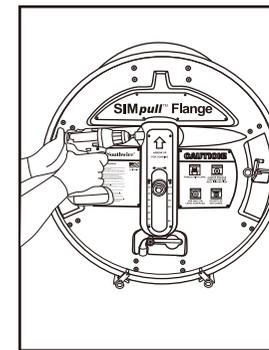

Fig. 7
- A. Actuate the screw jack to lift reel off the floor (Fig 7).